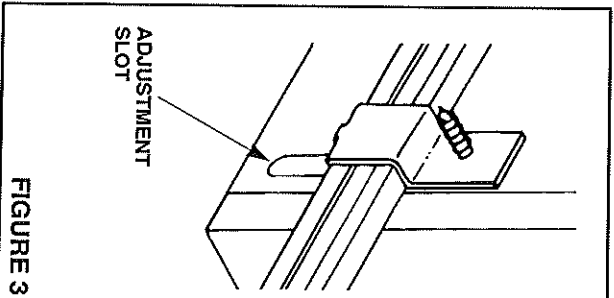

FIGURE 3
1. Install hanger bar brackets in slots in housing. (See Fig. 3) Do not tighten completely to allow bars to be inserted.
3. Refer to Figure 3. Slide hanger bar brackets down to end of slot closest to outside edge of housing. Tighten brackets in this position.